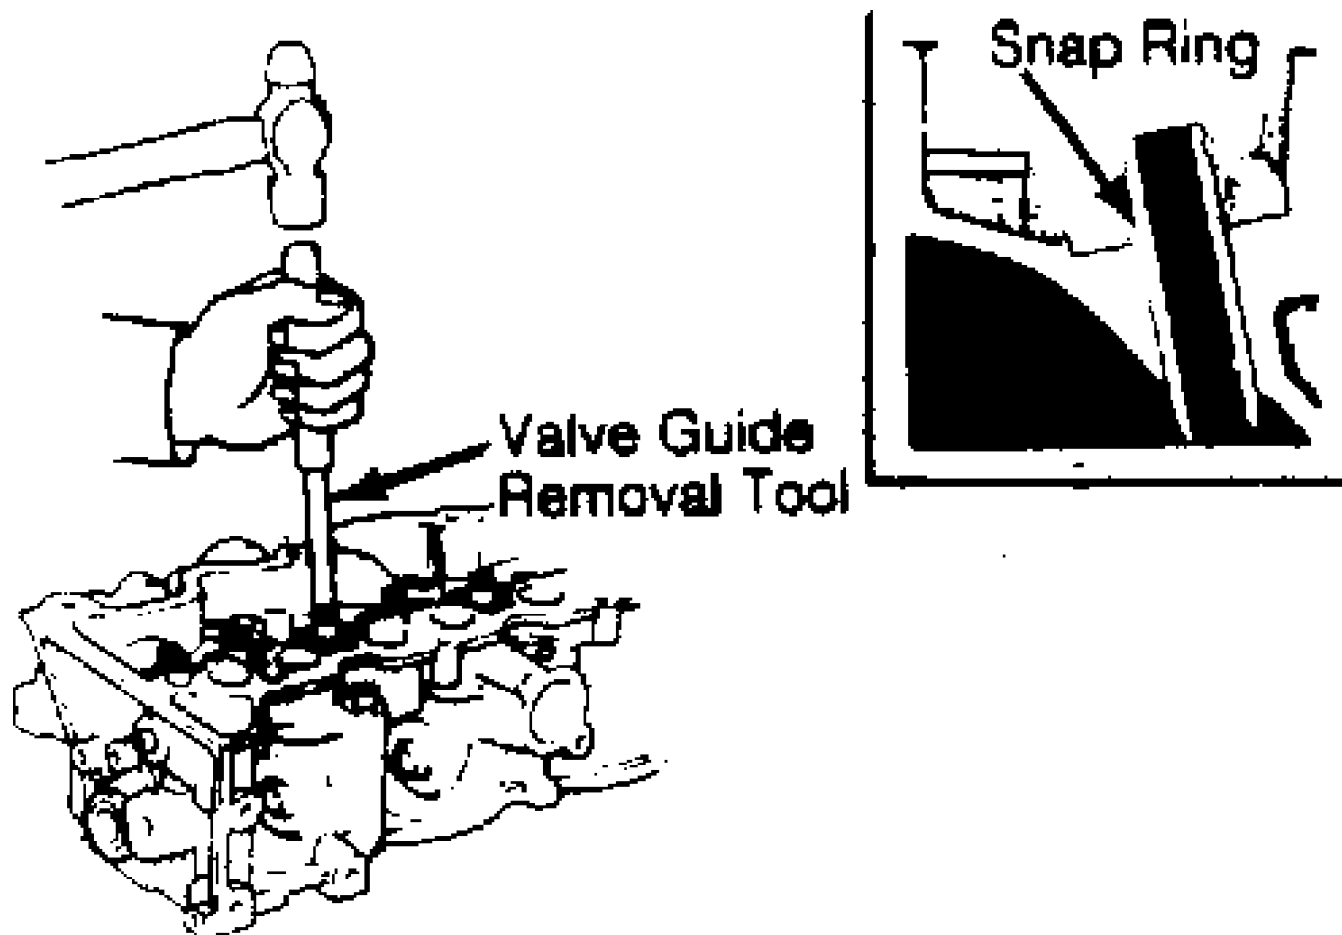

Fig. 22: Installing Oversize Valve Guide
2) Drive in new guide using Valve Guide Remover and Installer (09201-60011) until snap ring comes in contact with cylinder head. See Fig. 22. Using an appropriate reamer, finish guide bore to specified clearance. Reface valve seat surface as necessary.